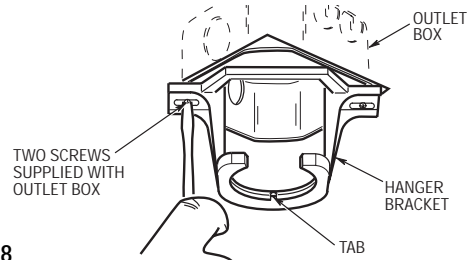
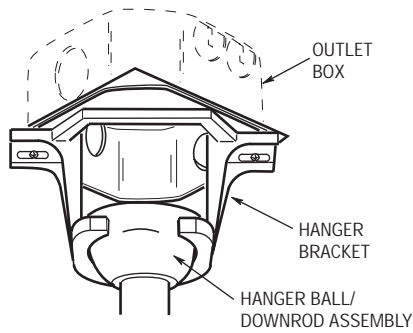

Figure 8
Figure 9
8. Securely attach the hanger bracket to the outlet box using the two screws supplied with the outlet box. (Figure 8.)
9. Carefully lift the fan and seat the hanger ball/downrod assembly on the hanger bracket that was just attached to the outlet box (Figure 9). Be sure the groove in the ball is lined up with tab on the hanger bracket (Figure 8).